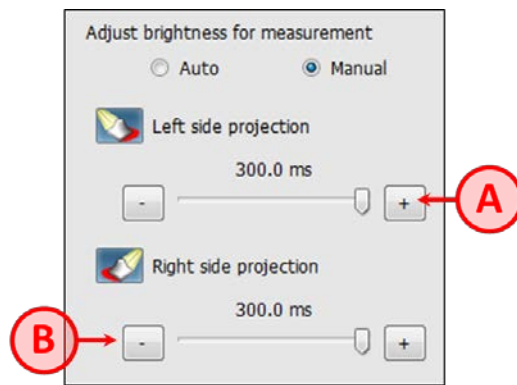

Figure 13 - Projection Sliders to Adjust Brightness
4.3. Set the **(A) Left side projection** and **(B) Right side projection** sliders to **300.0ms** (Figure 13).